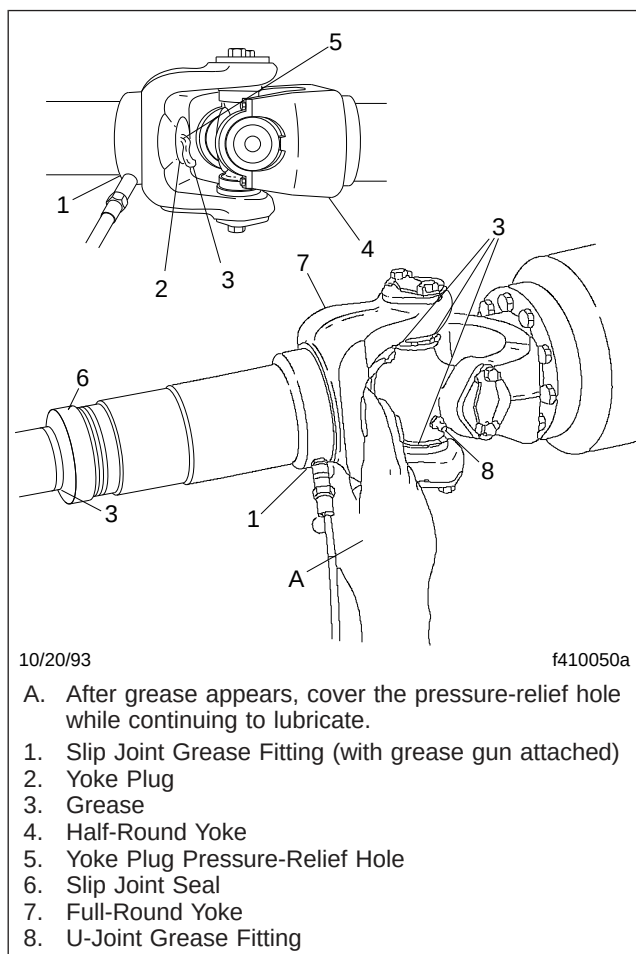

Fig. 5, Slip Joint and U-Joint Lubrication
9. For driveshafts with slip joints, check to be sure the yoke plug is not loose or missing. See Fig. 5, item 2. Have your Western Star dealer repair or replace the yoke plug as needed. If the yoke plug is missing, the splined shaft may be hitting the plug and knocking it out; have your Western Star dealer determine the correct driveshaft length.
2. Wipe all old grease and dirt from each U-joint grease fitting. See Fig. 5, Ref. 8.
1. If equipped with a grease fitting, wipe all old grease and dirt from the slip joint grease fitting. See Fig. 5, Ref. 1.
2. Use a hand-type grease gun or a high-pressure gun with a low-pressure adapter, to lubricate the slip joint. Add multipurpose chassis grease (lithium 12-hydroxy stearate, NLGI Grade 1 or Grade 2, with EP additives) until it appears at the pressure-relief hole in the yoke plug. Then cover the relief hole with your finger, while continuing to apply gun pressure until new grease appears at the slip joint seal. See Fig. 5. This ensures complete lubrication of the splines.